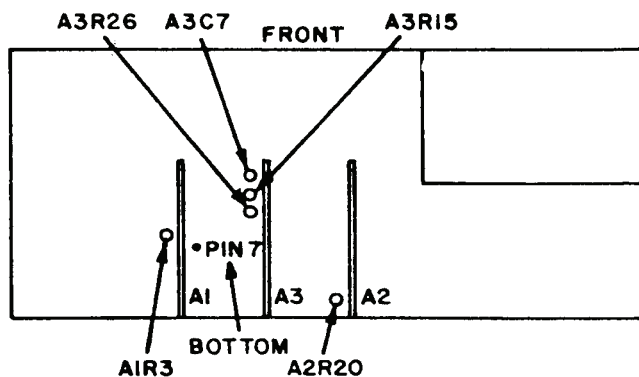

Figure 1. Test oscillator top view adjustments.
- (1) Adjust **AMPLITUDE** control for an indication of 10.0 V on true rms voltmeter.
- (2) Adjust A3R15 (fig. 1) for an indication of 10.0 V on output meter (R).
- (3) Adjust A3C7 (fig. 1) for an indication of 10.0 V on output meter (R).
- (4) Adjust **AMPLITUDE** control for an indication of 20.0 V on true rms voltmeter.
(5) Adjust A3R26 (fig. 1) for an indication of 20.0 V on output meter (R).
**b. Adjustments.** Set frequency dials to indicate 10.00 kHz. Adjust A2R20 (fig. 1) for minimum distortion on audio analyzer.
- (1) Connect multimeter between A1 PIN 7 (fig. 1) and signal ground.
- (2) If multimeter does not indicate between -35.5 V dc and -36.5 V dc, perform **b** below.
**a. Adjustments.** Adjust A1R3 (fig. 1) for a -36.0 V dc indication on multimeter (R).